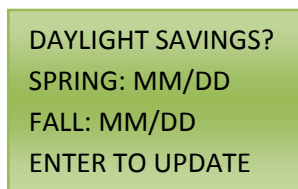

Figure 14.2
- a. This action allows for the dates that Daylight Savings occurs on to be set. Since the time changes all the time, this allows the system to be correct at all times. Press RIGHT Arrow to move the cursor over to the Date for Spring Daylight Savings Time. Press the UP or DOWN Arrow to change the Date. Press the LEFT Arrow to return to the colon to move onto programming the Date for Fall Daylight Savings Time. Press the DOWN Arrow to move the cursor onto the colon between the words FALL and MM/DD. Press the RIGHT Arrow to move the cursor over to the Date for the Fall Daylight Savings Time. Press the UP or DOWN Arrow to change the Date. Make sure to press ENTER to save the information. See Figure 14.2 for a visual example.